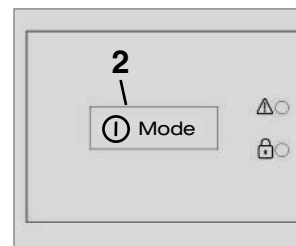

Fig. 41
- Press the "MODE" button to switch off MES and AES models. Keep button "2" pressed for 2 seconds. The display disappears and the appliance is fully switched off (Fig. 41).